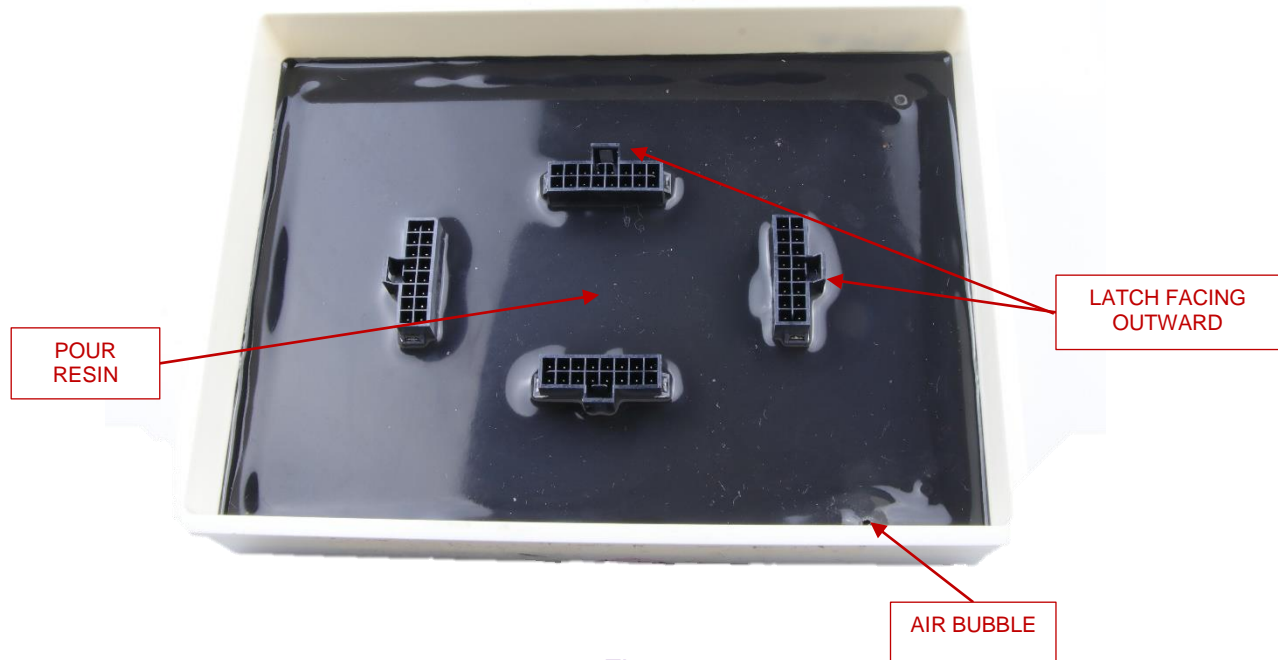

Figure 4
- When designing the PCB for header make sure the latch of the header is facing in the outward direction. (Refer the figure 4)
- Always pour the resin from the center of the PCB to avoid the bubble formation on the surface of the resin after potting. (Refer the figure 4)